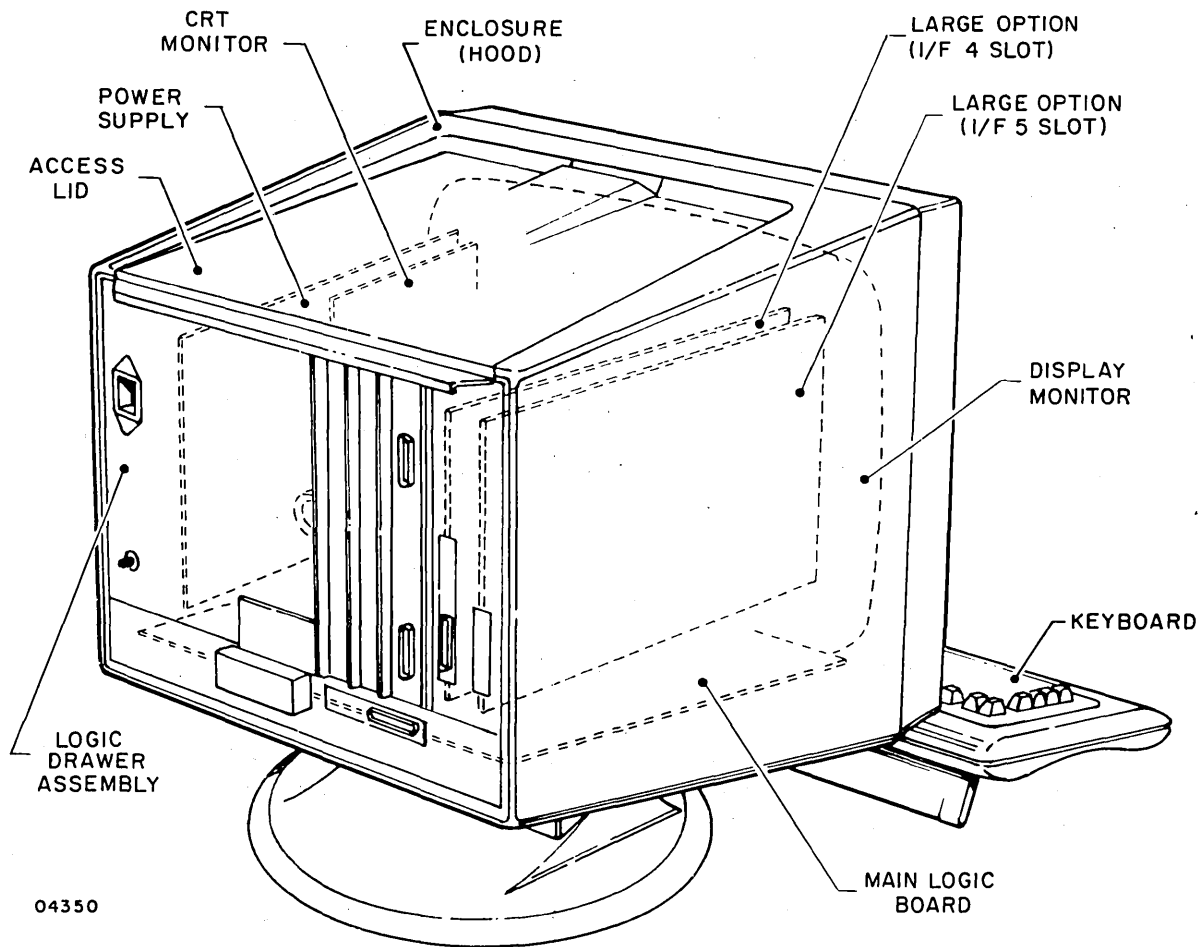

Figure 4-2. Major Assemblies
Figure 4-2 depicts the major assemblies comprising the display terminal and the following paragraphs describe those assemblies.
- Large Option Boards - These options, if installed, enable additional functions of the terminal. Currently available large option boards include the dot-graphics board and the internal 1200/1200 b/s modem board (refer to figure 4-2).
All the internal parts of the terminal are housed in the enclosure or hood. The enclosure (figure 4-2) attaches to the CRT bezel adapter assembly, which contains the CRT, yoke, and CRT monitor board. The bezel assembly is attached to the CRT/bezel adapter assembly. If the graphics option is installed the touchpanel is mounted in back of the bezel assembly.